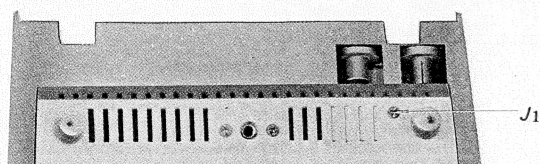

Fig. 2-11
2. Remove the screw labeled J1 in Fig. 2-11.